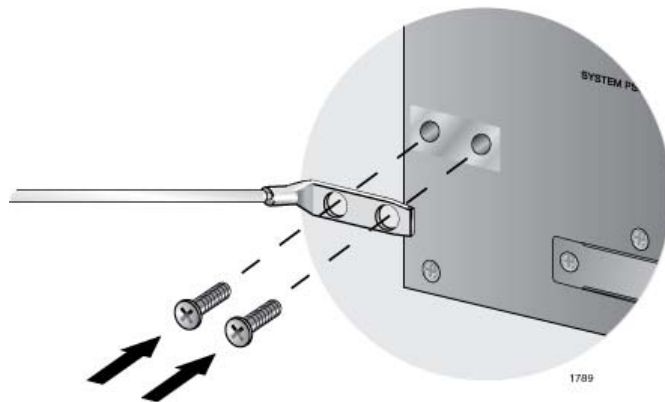

Figure 41. Installing the Grounding Lug and Wire
4. Install the grounding lug on the rear panel of the chassis, as shown in Figure 41. Allied Telesis recommends tightening the screws to 20 inch-lbs.